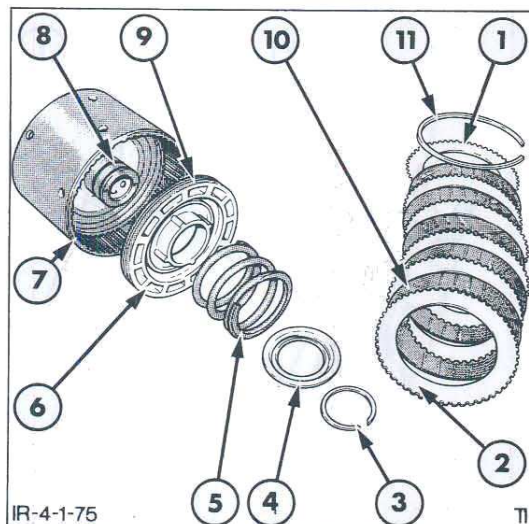

Figure 75
7. Remove the pistons (one in each end of the clutch housing) by directing compressed air into the oil passage in the hub of the clutch housing, Figure 75.
1. Install new 'O' ring seals on the clutch pistons, Figure 75, and on the hub of the clutch housing. Coat the 'O' ring seals with grease, then install the pistons (one in each end of the housing) so they are seated against the centre web of the housing.